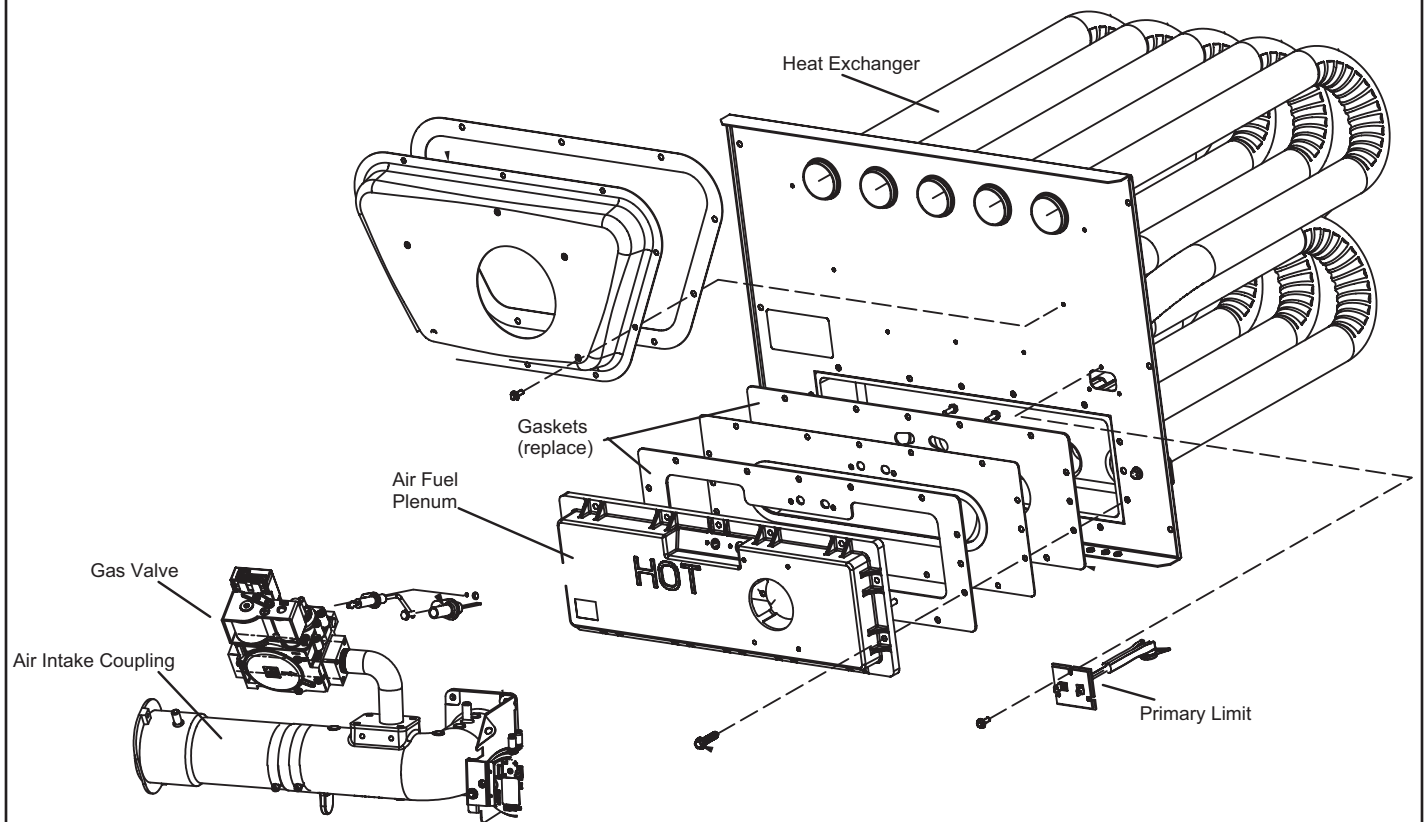

FIGURE 31
- 10 - To clean burner, remove from the air gas plenum and run a vacuum cleaner over the face of burner. Visually inspect inside the burner for any blockage caused by foreign matter. Remove any blockage. FIGURE 31 shows burner detail. Replace gasket between burner plate and air fuel plenum then re-install burner plate.